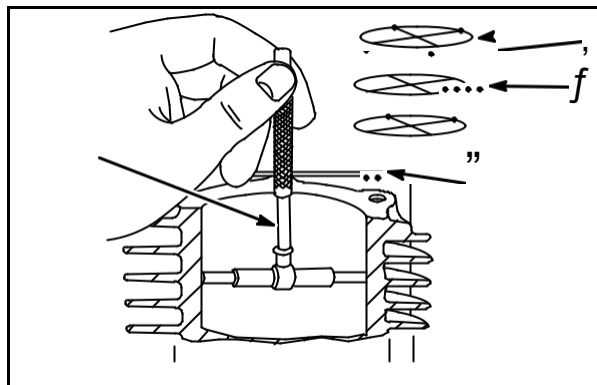

Fig. 2
Use Telescoping Gauge #19404 (1) and Dial Caliper #19199 to check cylinder bores for wear. Measure cylinder bore at 6 points as shown, **Fig. 2**. Measure each cylinder bore at 90° angles near the top (2), middle (3) and bottom (4) of piston ring travel as shown.